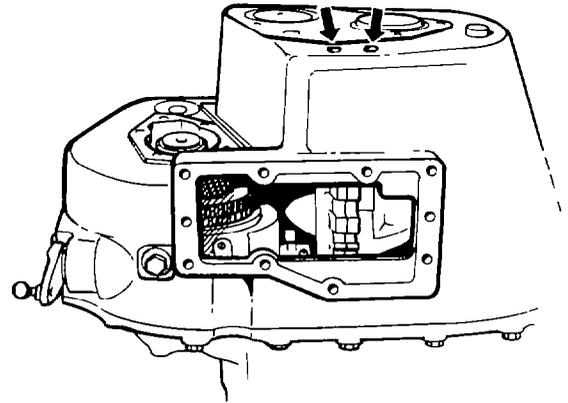

Figure 34 Selector Rod Screw Plugs
- (8) Remove the retaining bolts and detach the shift mechanism from the main gearbox; remove the screw plugs for the selector rods (see Fig 34).